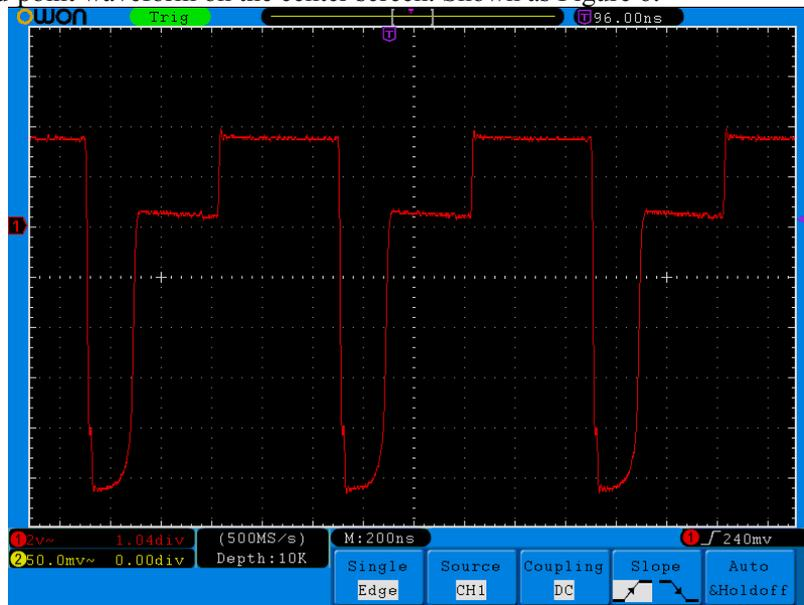

Figure 6: Waveform of transient response inspection
B. Set the period of the faster edge pulse as 1uS, adjust its output amplitude to make the waveform take up about 80% spare of the checked working amplitude on the screen (usually 6 grids), and regulate the zero point position to make the 0% of amplitude A and the 100% of amplitude A align with the level of calibration line respectively, then also adjust the time base and trigger level to make the mid-point waveform on the center screen. Shown as Figure 6: